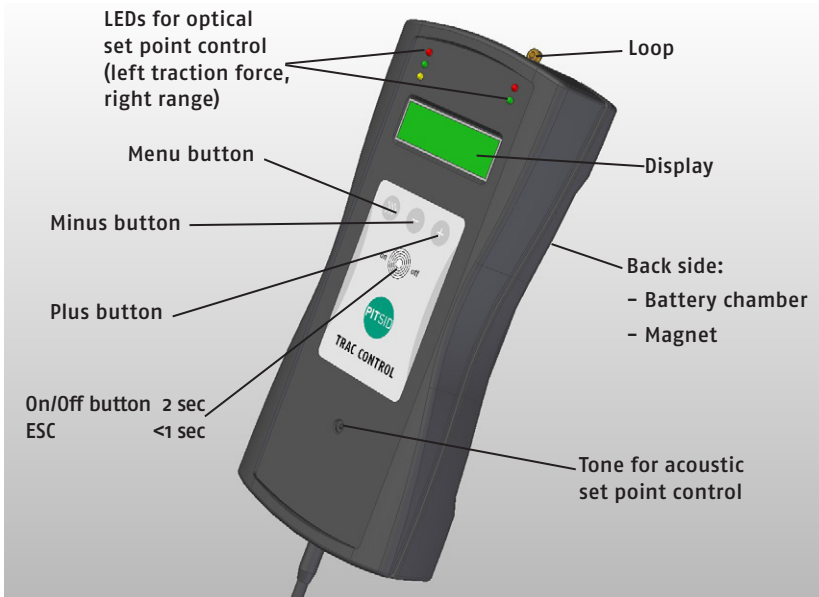
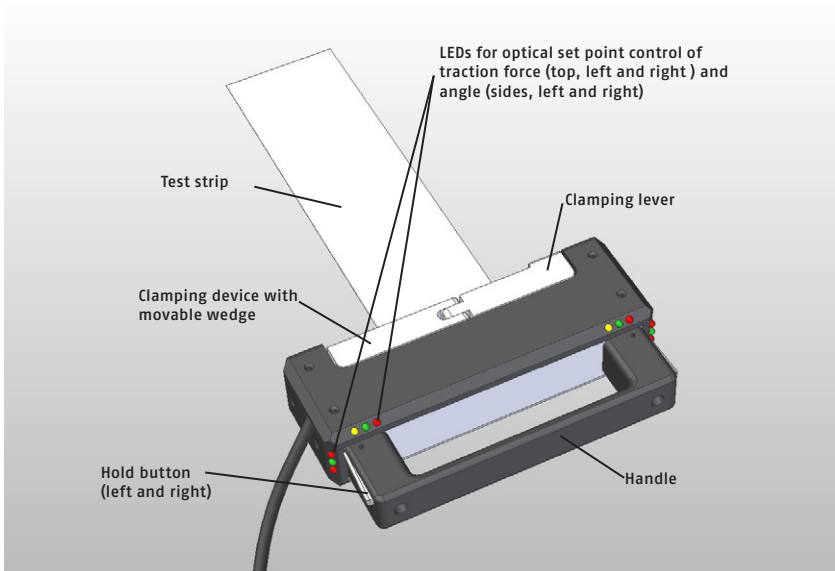

Figure 1: Hand-held unit
Figure 2: Measuring head
- The TRAC CONTROL consists of the hand-held unit (Figure 1) and the measuring head connected by a cable (Figure 2).